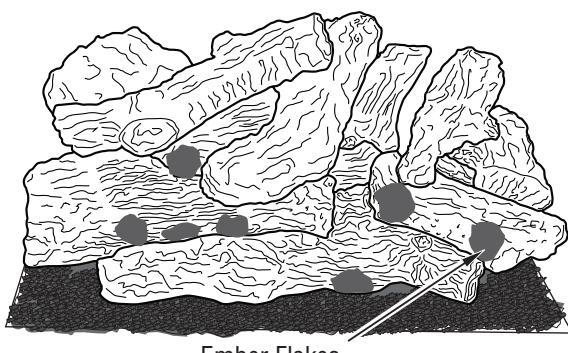

Figure 31 - Installing Ember Flakes
4. Place ember flakes around front and sides of burner and on burner ports (see **Figure 31, Page 21**). This will create the glowing ember appearance as the flame touches the ember flakes. Do not block burner ports or pilot ports by overlapping ember flakes in one area. It is not necessary to use all ember material provided.